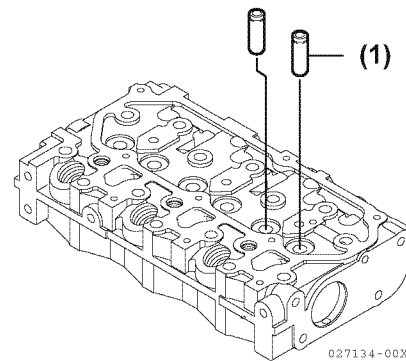

Figure 6-10
If the valve guides are not within specifications, use a drift pin and hammer to drive the valve guides (**Figure 6-10, (1)**) out of the cylinder head.